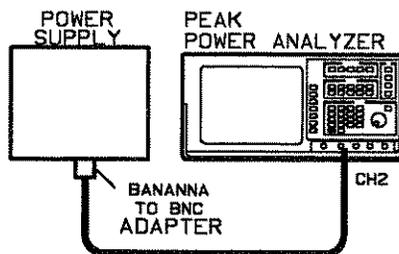

Figure 4-8. Checking Offset Accuracy Equipment Setup
1. Connect the equipment as shown in Figure 4-8.